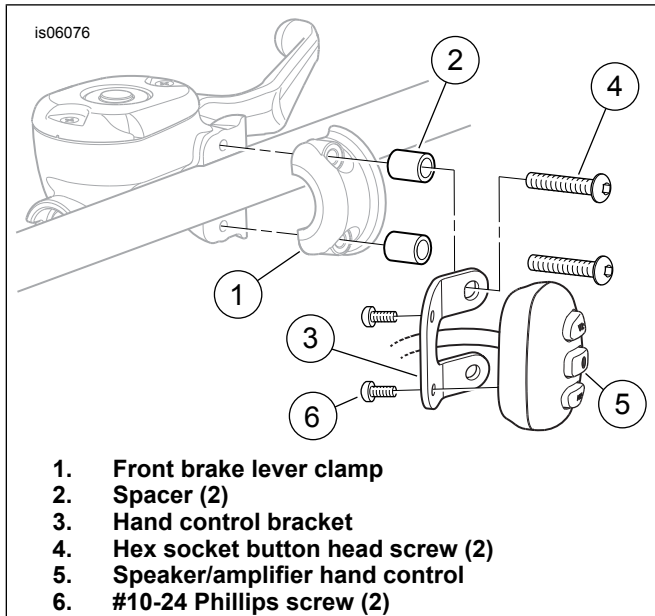

Figure 2. Hand Control and Bracket Installation
- See Figure 2. Remove the front brake lever clamp screws from the vehicle. Remove and retain the clamp (1). The screws can be discarded.
- Obtain the hand control bracket (3), two spacers (2), two screws (6) and:
- for 2004 and later XL Sportster models:** two screws (4) from the kit.
- for ALL OTHER models:** two screws (4) from the kit.
- Route the hand control (5) wire harness through the center of the hand control bracket (3) as shown.
- Install the hand control (5, part of the wire harness assembly) to the bracket with screws (6). Tighten securely.